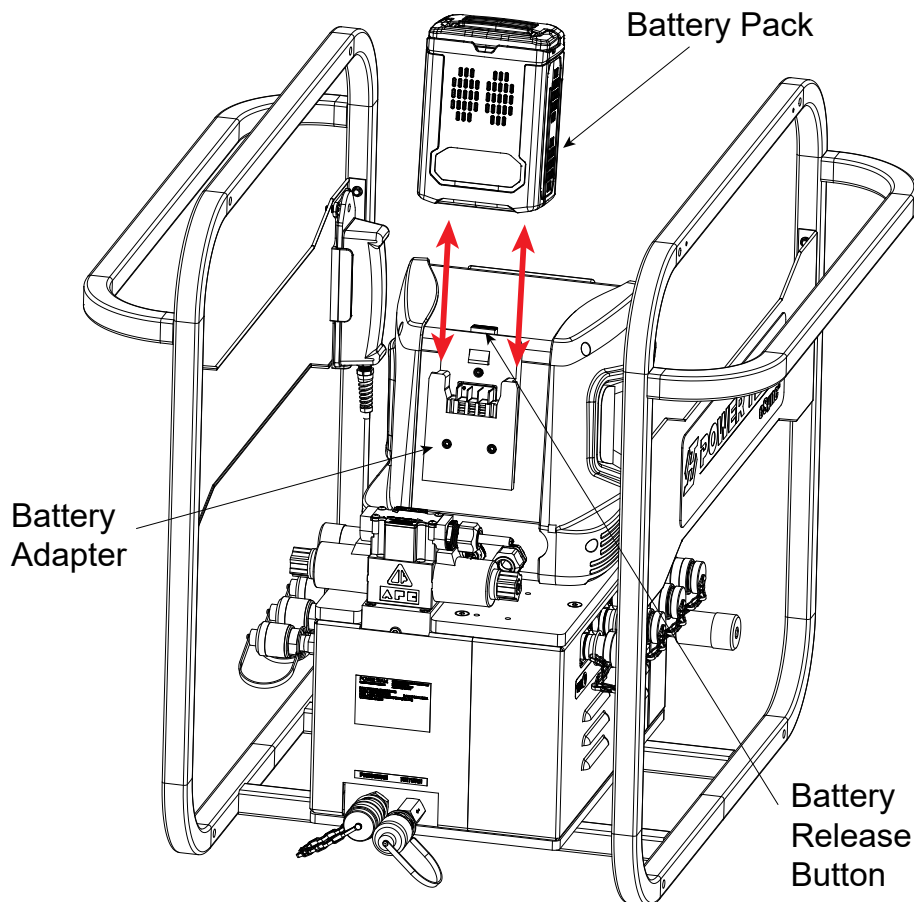

Fig. 10: eSync Battery Pack Installation
- D. Align the ribs on the battery pack with the battery adapter and gently push the battery pack into the battery adapter until you hear a "click," ensuring it is fully seated and secure (see figure 10).